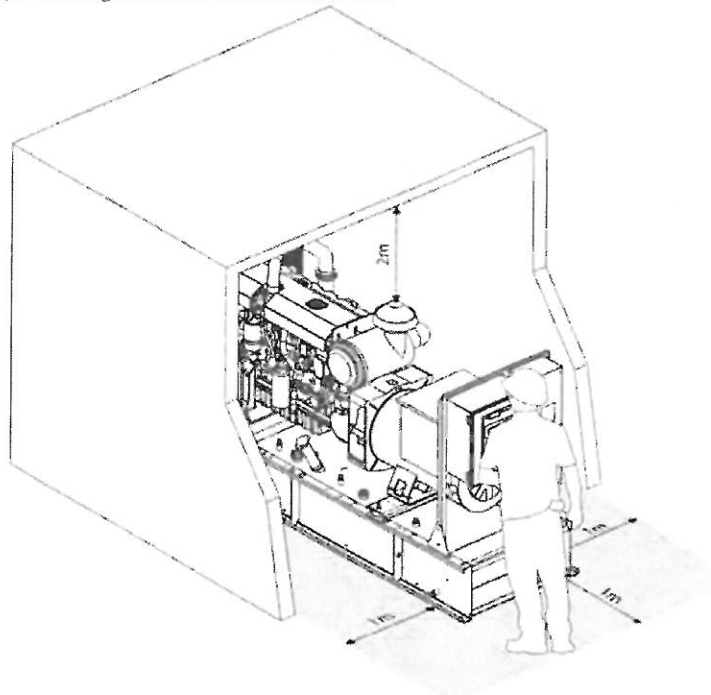

Figure 4b – Typical Installation showing generating set access and Operator Workstation
- Clearance around the generating set for cooling and access for service: at least 1 metre (3ft 3in) around the set and at least 2 metres (6ft 6in) headroom above the set. (See Figure 4b)